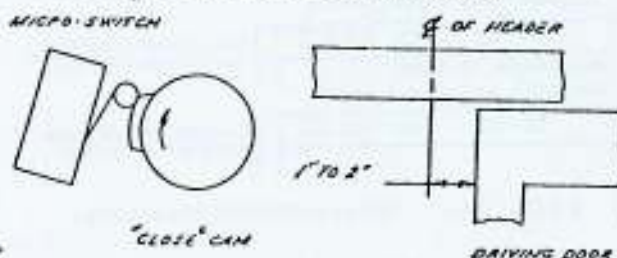

FIG. 32 "Close Door" stop cam adjustments.
- (f) Slide the driving door toward the closed position until the edge is about 1 to 2 inches from the center of the header (see FIG. 32) or from the door jamb if the